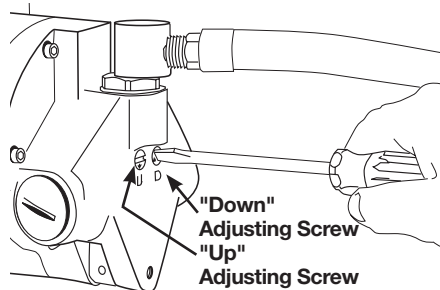

Figure 4- Hoisting and Lowering Speed Adjustment
2. To adjust the hoisting or lowering speed, turn appropriate regulator screw (Figure 4) in either direction a little at a time while operating hoist under load.